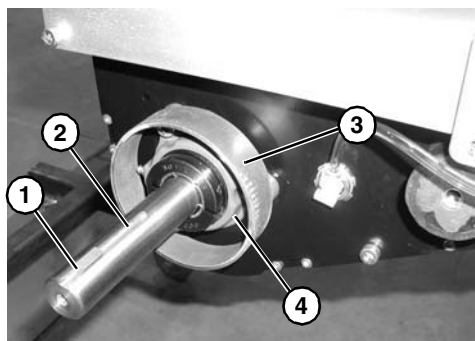
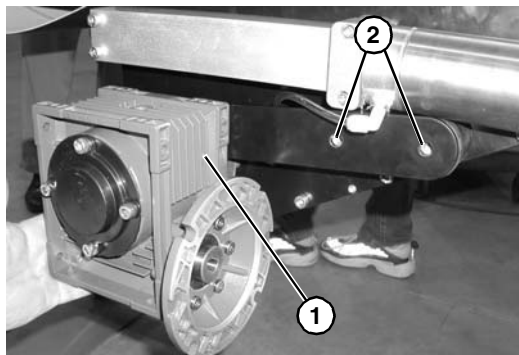

Figure 16
Figure 18
3. Install key (**Figure 16, item 1**) on drive shaft (**Figure 16, item 2**). Install cover (**Figure 16, item 3**) over bearing housing (**Figure 16, item 4**).
5. Slide gearmotor (**Figure 18, item 1**) on to drive shaft (**Figure 16, item 2**). Tighten mounting screws (**Figure 18, item 2**) to 200 in-lbs (22.5 N-m).